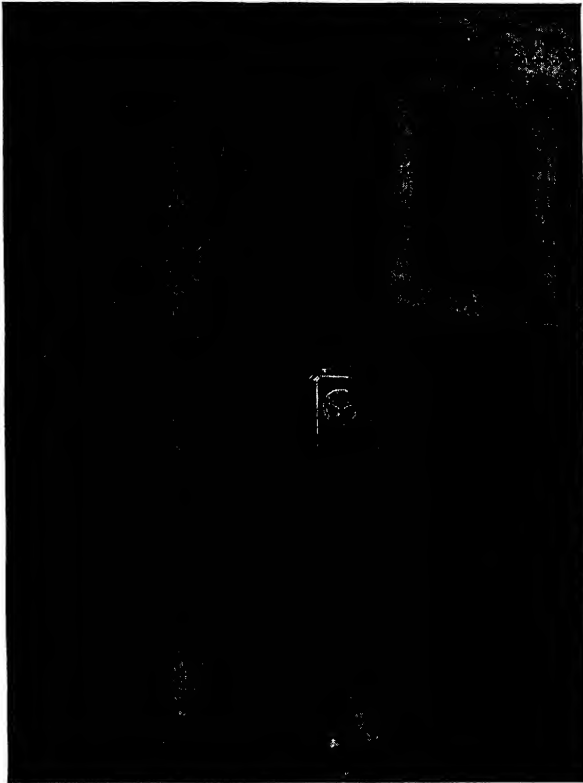
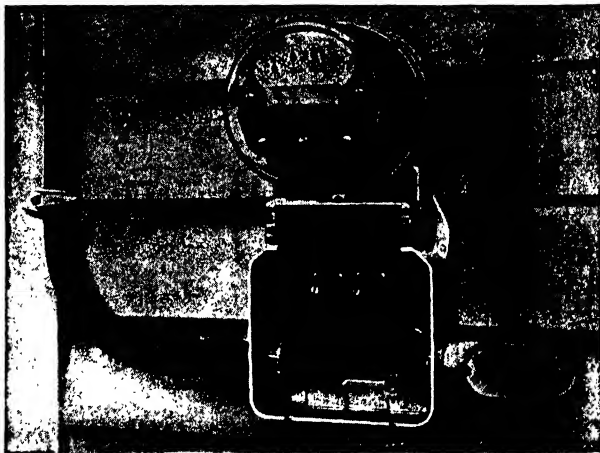
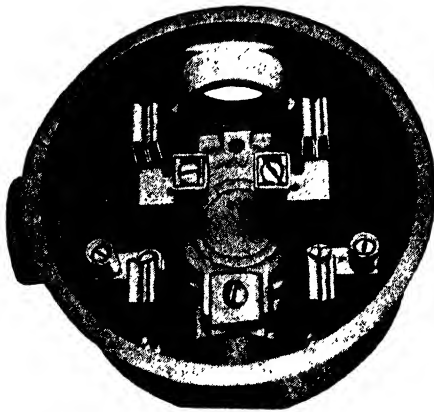

Fig. 4. Outdoor Installation of Meter in Protective Case
Fig. 5. Interior Wiring of Meter Connection Box That Can Be Used either Indoors or Outside
Fig. 6. A Three-Conduit Meter Socket for Vertical Mounting
**Meter Fittings.** An installation of rigid conduit service with an outdoor meter mounted inside a protective case is shown in Fig. 4. An entrance elbow is used at the bottom of building to turn the
A view of another type of connection box is shown in Fig. 5. This is arranged for horizontal entrance and exit of the service conduit. The connections of the wires in Fig. 5 are clearly shown for a single-phase, 3-wire, 120-240-volt watthour meter. There are four terminals at the bottom of the watthour meter. The two left-hand terminals are always marked and connected to the "line" and the two right-hand ones are always connected to the "load." The two outer terminals are connected together by the winding inside the watthour meter, and the two center terminals are likewise joined together. If wires of three colors are used on the service wiring (such
The neutral wire should not be cut at this box, but looped under the connection screws. The connection box is grounded to the neutral wire by the clip in the box, as shown in Fig. 5.
When the building being wired is small and an electric range or water heater will never be installed, a 2-wire service and meter would be installed. The terminal connection box is wired the same as Fig. 5, except the lower wire going straight through the box is omitted. Then a black and a white wire are used from the service at left to the load at the right. The white wire is usually connected by looping it up and under the screws of one of the inner "line" or "load" terminals of the watt-hour meter block. The white wire is also grounded to the clip on the connection box in the same way as the lower wire in Fig. 5.
A type of meter connection box that is being used very extensively both for inside and outdoor mounting is the socket type, Fig. 6. The type of watthour meter to be used with this box, has, on its back, four blades that are inserted into the four clips. A clamping ring fits around the socket and holds the watthour meter in place. These socket fittings are also made without the conduit opening which is shown at the left in Fig. 6, in which case the service
conduit is run vertically as in Fig. 4. Another type of socket fitting with the openings on each side is used when the service conduit is run horizontally as shown in Fig. 5. In all installations the clips must be vertical as in Fig. 6, and the line wires are connected to the top two clips by fastening them to the screw connectors. The load wires are always connected to the two bottom clips. The neutral or grounded conductor on a 3-wire service is run straight through the fitting and grounded to it by fastening it under the screw above the lower conduit opening.